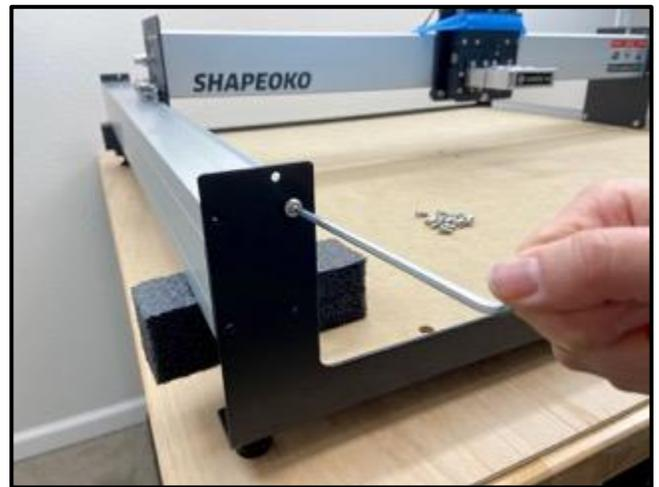

Figure 4-10
PRO TIP: Prop up the extrusions with the two foam blocks from the Y-Axis Left and Right Assembly boxes to help line up the mounting holes. See **Figure 4-10**.
1. Line up the Y1-rail with the **UPPER-INSIDE** mounting holes of the front and rear endplates. See **Figure 4-10**.
2. Use the 4mm hex key and two (2) M6x12mm button head cap screws to loosely secure the Y1-rail to the front and rear endplates. See **Figure 4-10**.